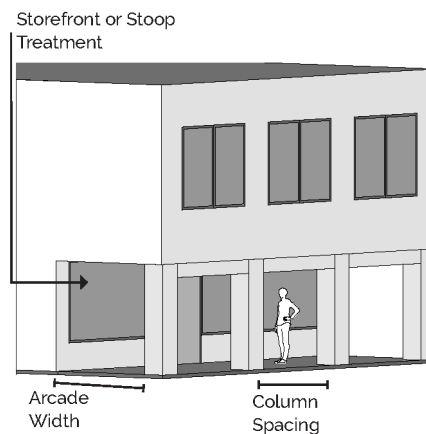

Figure 5.5-4. Arcade
- (c) Arcade. An arcade is a covered pedestrian walkway within the recess of a ground story. Refer to Figure 5.5-4, Arcade.